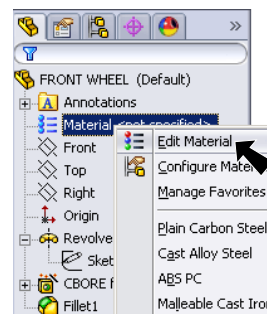

Fig. 18
Step 1. **Right click Material**  in the Feature Manager and click **Edit Material**, **Fig. 18**.